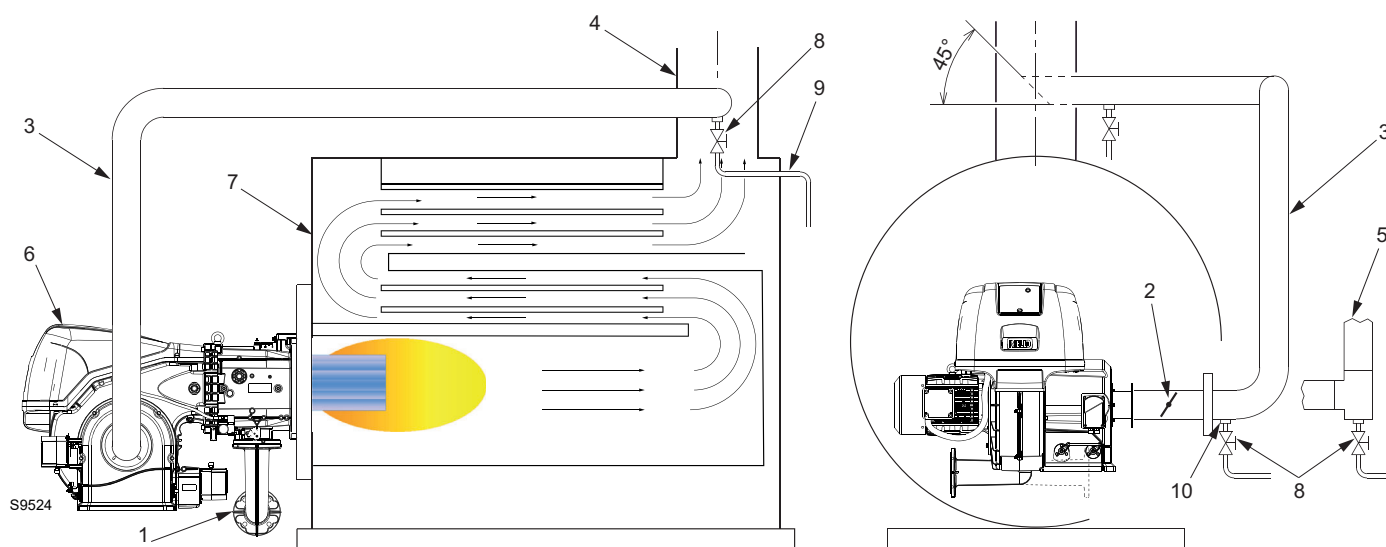

Fig. 18
- Normally the duct would connect to the stack as shown in Fig. 18, with a 45° cut facing the flue gas flow and with the centre of the cut centred in the stack.
Key (Fig. 18)